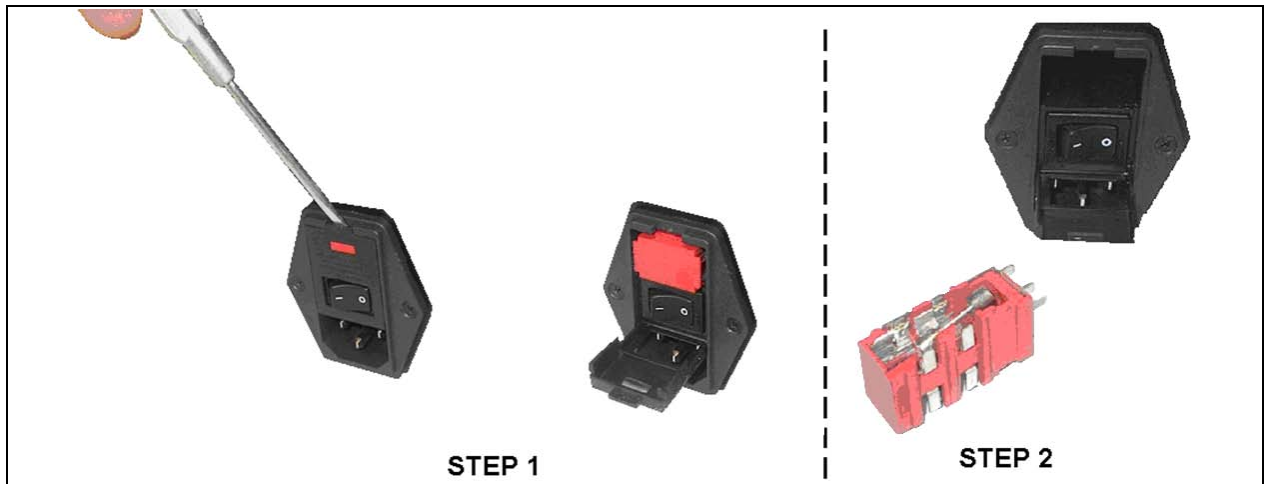

Figure 5-3: CS7000 Fuse Replacement (Rear Panel Views)
1. As shown in Figure 5-3, slip the tip of a small flat-blade screwdriver into the pry slot at the top of the AC Power Module and open the fuse assembly door.